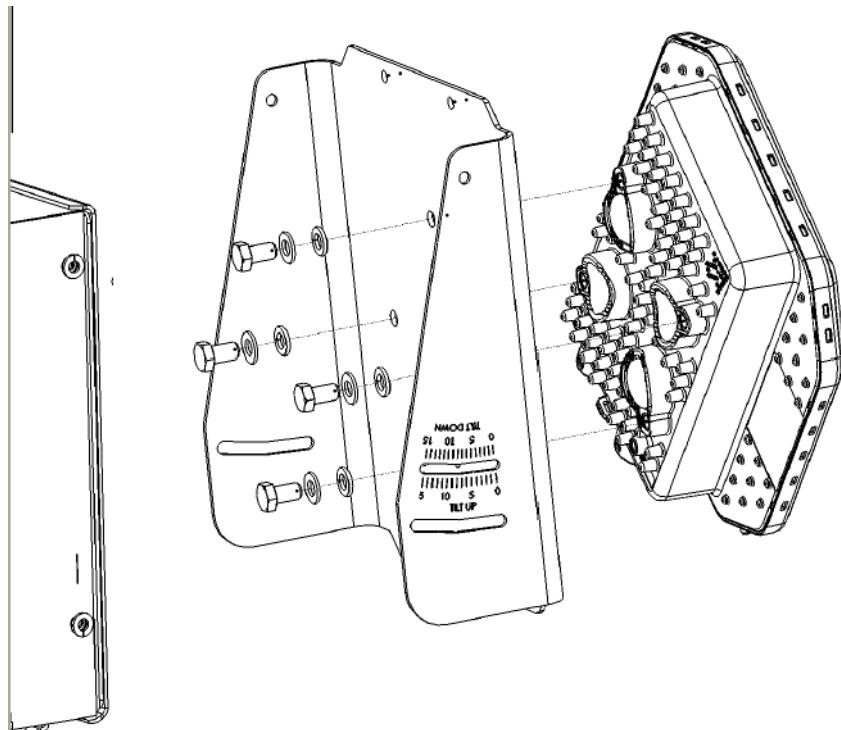

Figure 2-5: Attaching BreezeMAX PRO-S ODU or BreezeACCESSSU-ODU with HW Revision E to Mounting Plate
- 2 Using the M8 x 16 hex head screws and the flat washers and spring washers supplied, attach the SU-ODU to the mounting plate as shown in Figure 2-5 in the direction marked.